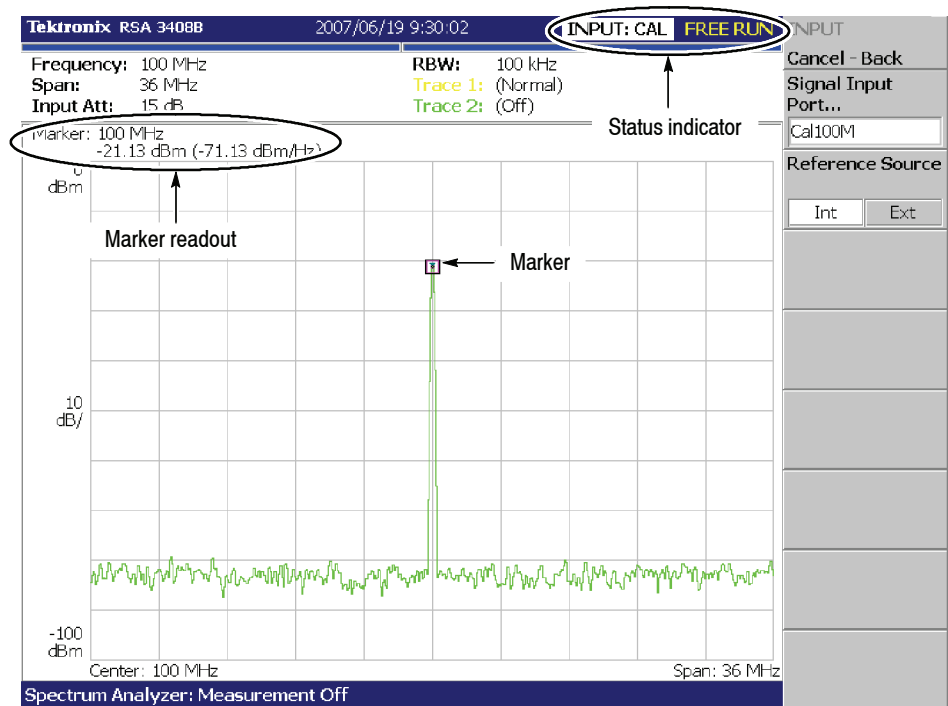

Figure 3-1: Spectrum of the calibration signal (100 MHz, -20 dBm)
- d. Check that “INPUT: CAL” and “FREE RUN” are displayed in the status indicator at the upper right of the screen (see Figure 3-1).
- a. Press the **Peak** key on the front panel to place the marker on the peak (see Figure 3-1).